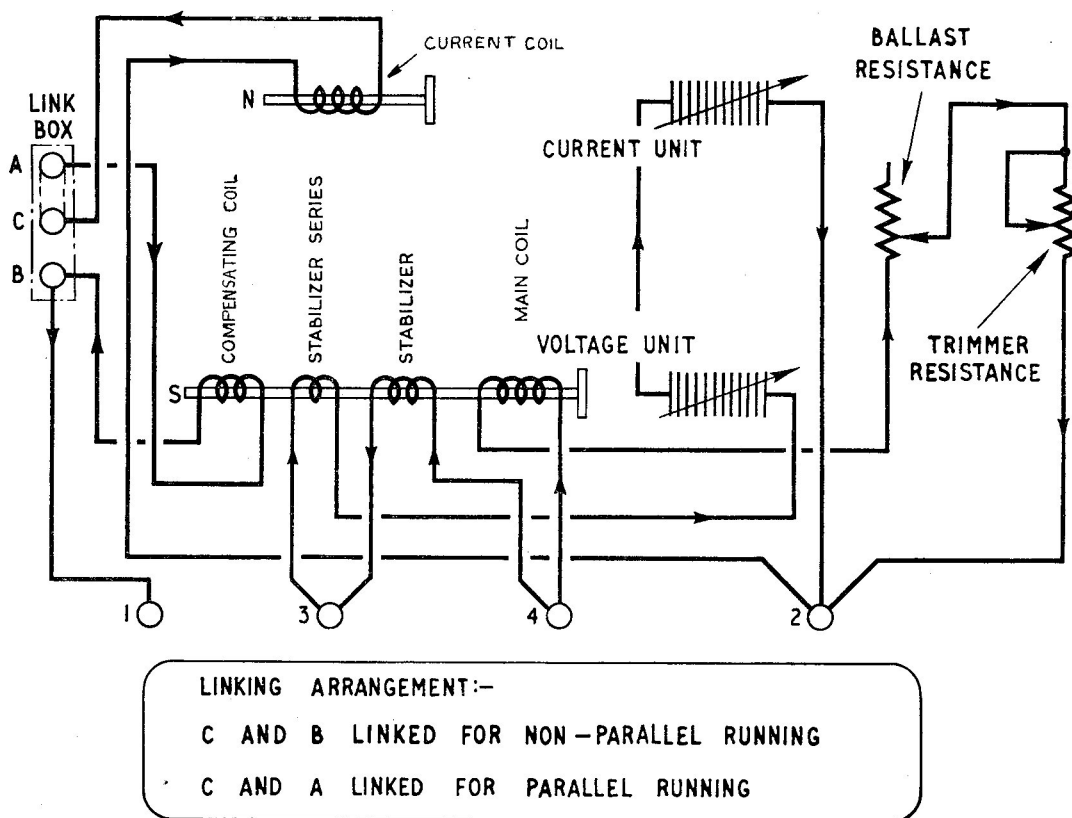

Fig. 3. Circuit diagram
4. Besides the main operating coil and the compensating winding, the voltage unit incorporates two stabilizing windings, which can be seen in the circuit diagram in *fig. 3*. These are a high-resistance winding connected across the field, acting in the same direction as, and superimposed on, the main coil, and also a coil wound in series with the pile to balance the effect of the shunt stabilizing coil under steady conditions. With rapid changes of speed or load the shunt